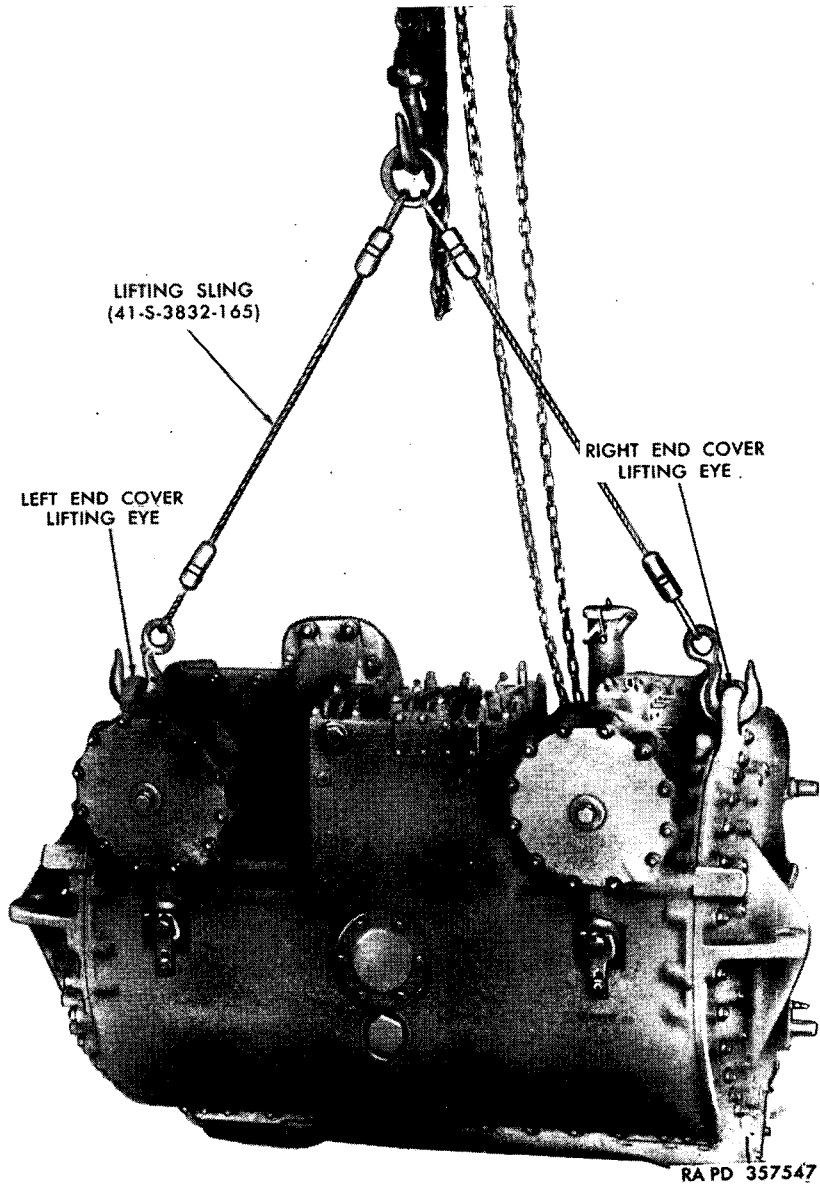
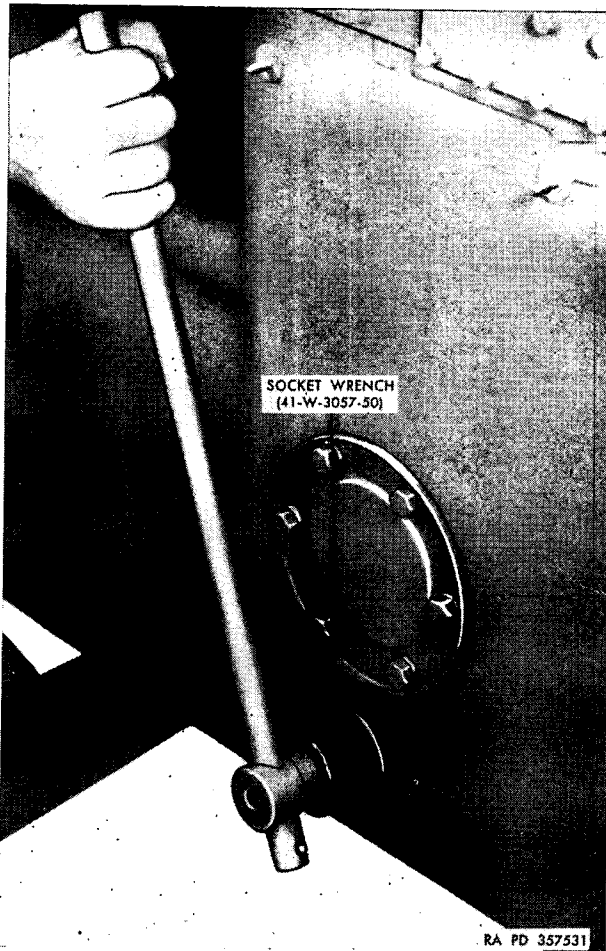
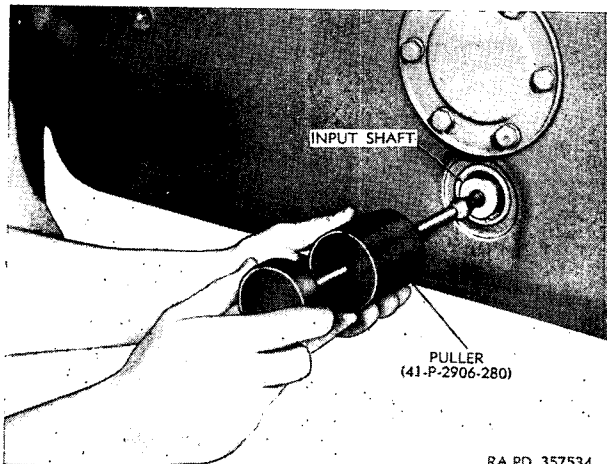

Figure 134. Lifting transmission with sling.
Figure 135. Removing input shaft access plug.
Figure 136. Pulling input shaft.
- e.* DISCONNECT ENGINE FROM TRANSMISSION. Install lifting sling 41-S-3832-165 on transmission (fig. 134). Make sure the engine is blocked securely. Remove the input-shaft access plug in center-rear of the transmission (fig. 135). Remove snap ring using snap ring pliers 41-P-1992-35, and pull input shaft to the rear with puller 41-P-2906-280 (fig. 136) to disengage engine and transmission drive connection. Remove transmission-to-engine mounting bolts (fig. 229). After removing the securing bolts, take up the weight of the transmission with the sling. Remove the transmission from the engine by working it straight off the dowels. Remove "O" ring packing from between engine and transmission flanges.
- b.* SUPPORT TRANSMISSION. Install lifting sling 41-S-3832-165 on transmission (fig. 134) and take up its weight.